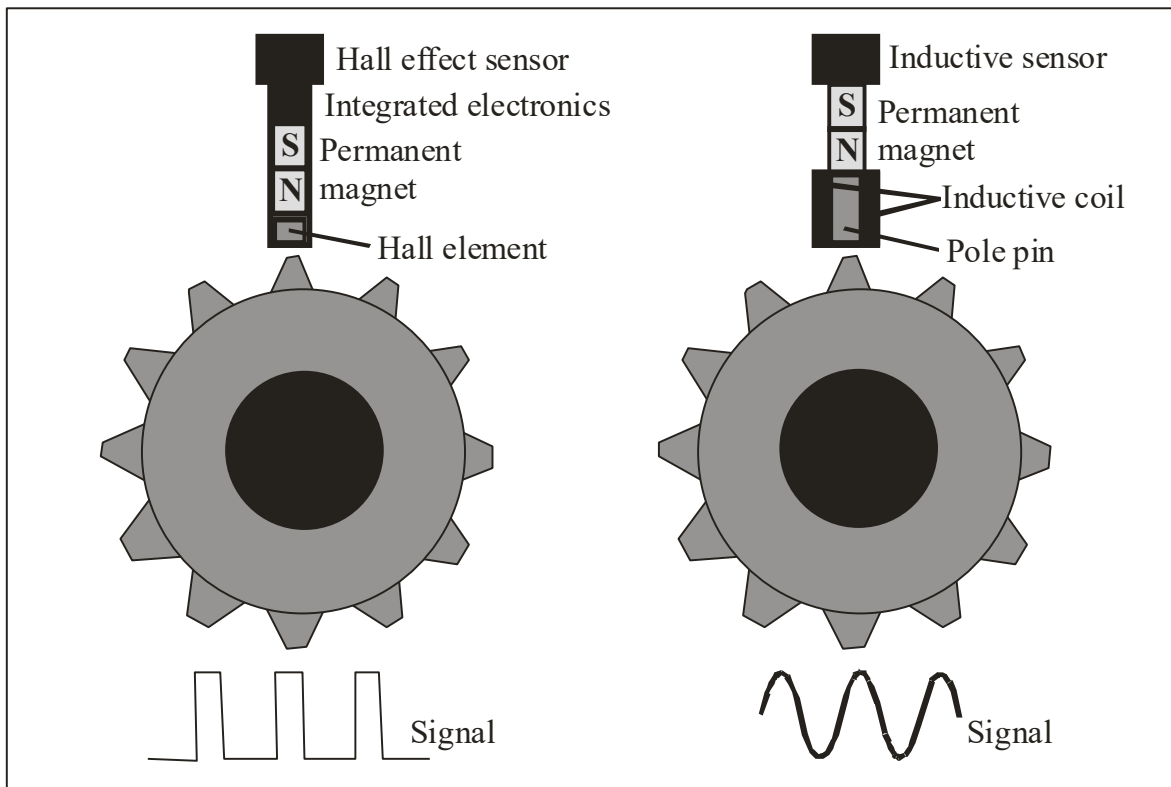

Fig. 6.7. Hall Effect and Inductive sensors.
The Hall effect sensors used advanced semiconductor technology. The Hall element is constructed from a thin sheet of semiconductor material with output connections perpendicular to the direction of current flow. When subjected to a magnetic field, it responds with an output voltage proportional to the magnetic field strength. The voltage output is very small in the range of microvolts (μV) and requires additional electronics to amplify signal to useful voltage level of a few volts (V). When the Hall element is combined with the other electronics, it forms a Hall sensor. The heart of every Micro Switch Hall effect device is the integrated circuit chip that contains the Hall element and the analog signal or digital signal electronics. In Fig. 6.7 presented is operation schema of Hall and inductive sensors for comparison. We shortly comment inductive sensor. An inductive sensor is a device that uses the principle of electromagnetic induction to detect objects.
A multipole ring can be used as an impulse wheel as shown in Fig. 6.7. Also exist other systems in which magnets with permanent alternating poles are integrated in rotating disc. In this